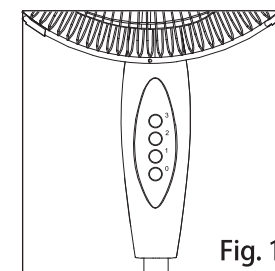

Fig. 1
- To switch on the fan, select the appropriate speed setting (Fig. 1):